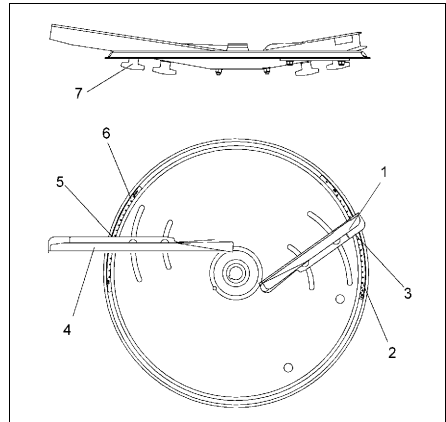

Fig. 38
- Slacken both thumb nuts (Fig. 38/7) beneath the spreading vanes.
- Swivel read off edge (Fig. 38/3) of the short vane (Fig. 38/1) on figure "14" of scale (Fig. 38/2) and retighten thumb nut firmly.
- Swivel read off edge (Fig. 38/5) of the long vane (Fig. 38/4) on figure "47" of scale (Fig. 38/6) and retighten thumb nut firmly.